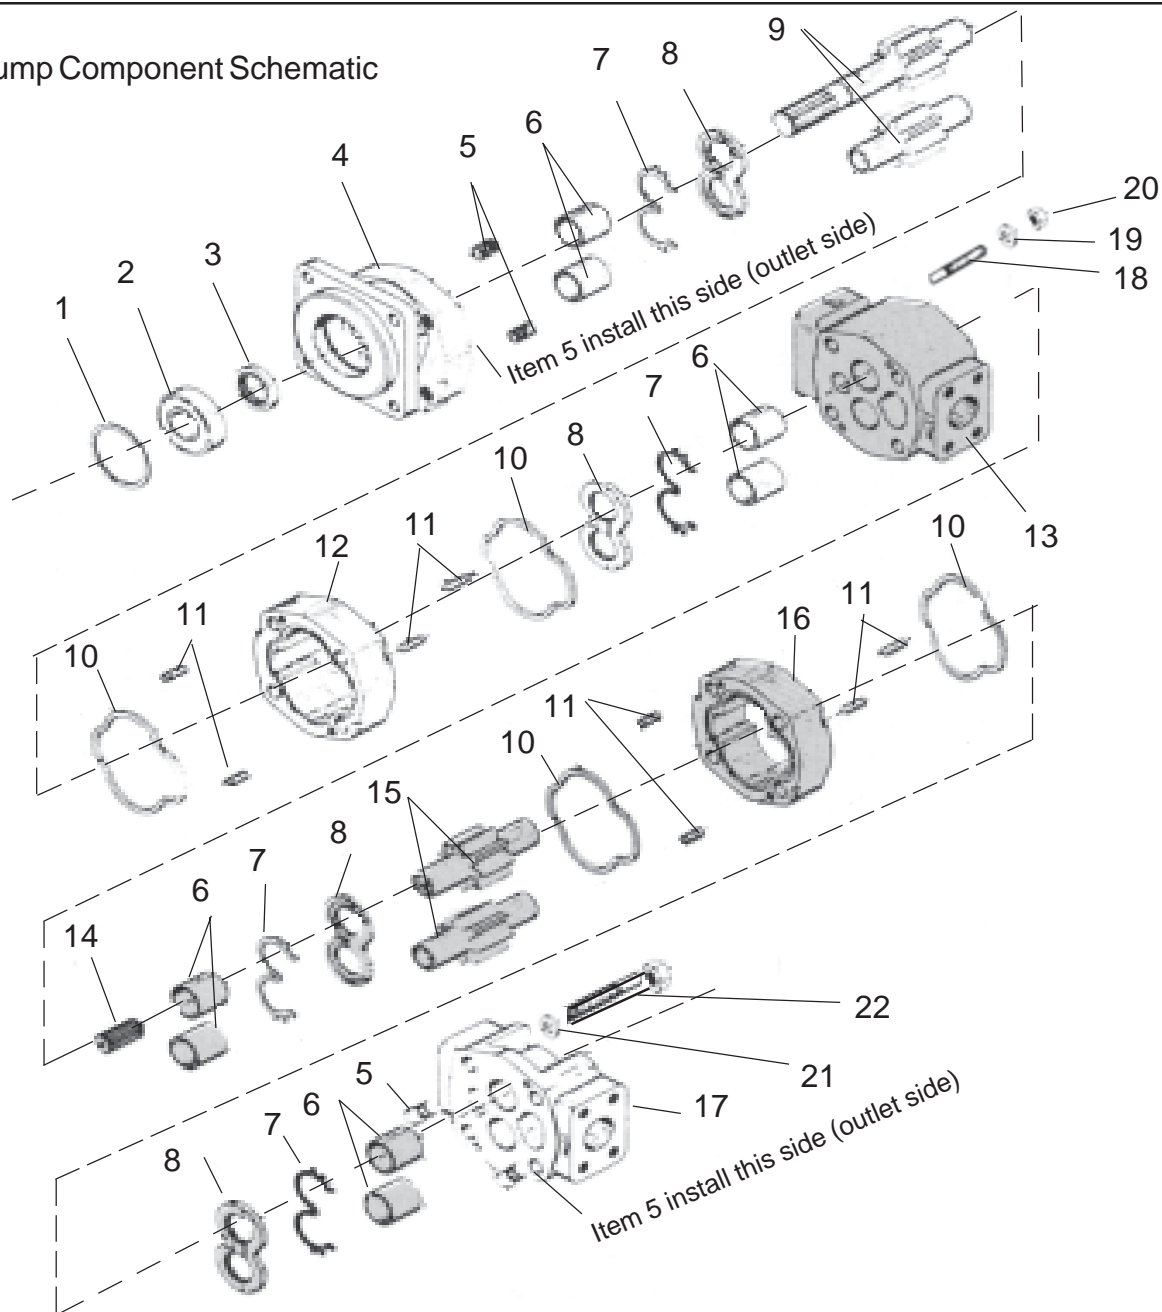
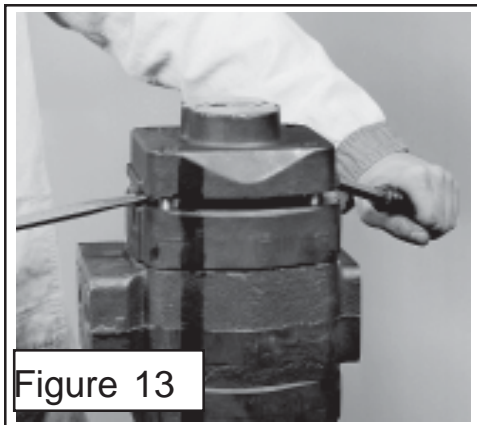
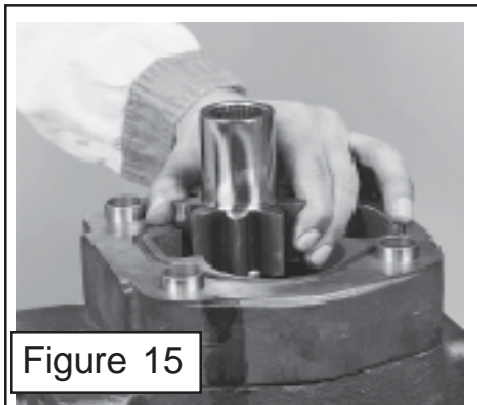

Figure 10
Figure 13
Figure 15
2. Use a socket Wrench or Boxed end wrenches (**Air impact wrenches are not recommended for dis-assembly**). Remove the four hex bolts and washers (**figure 10 item 19 & 20**), This will allow for the removal of the outward half of the pump. The inward section is still connected together with the studs and nuts which will be removed in a later step. Inspect the bolts for thread condition. If bad threads on bolts most likely the threads in that hole are bad, mark the hole so it can be check later.
3. Lift the first port end cover (figure 10 item 17), if prying is necessary, be careful not to damage the machined surfaces. Dowel pins (figure 10 item 11) will remain in either the port end cover or gear housing. This will be OK because the components must be re-assembled in the same direction and orientation as removed. If one or more of the components are to be replaced as parts then it may require that the dowel pins be removed (figure 13).
4. Remove the thrust plate (figure 10 item 8). Make a note how this was removed, there is a smooth side and there is a grooved side. The smooth side will always face the gears, the grooved side will be for the channel seal (figure 10 item 7). Inspect the thrust plate for damage or wear at this time (see wear tolerance chart for pump and motors in this section), this will help in looking for other wear or damage to other components and also enable you to start making a list of components that need replacing.
5. Carefully remove the drive gear and the driven gear (figure 10 item 15). Avoid tapping the gear teeth together or against other hardened surfaces (figure 15), Keep these gears together because they are a matched set. Examine the gears for wear and/or damage. Note the dowels (figure 15) that are in the gear housing, sometimes these will come out and be in the end cover or they may stay in the gear housing. It will be OK as long as the same components are to be reassembled, but if some components are to be replaced and some are not then these dowel pins will have to be re-removed and re-inserted.
6. Remove the outer gear housing (figure 10 item 16). Lift the outer gear housing (figure 16) up, if prying is necessary take care not to damage machined surface. Examine gear housing for wear and/or damage. (See wear tolerance chart for pump and motors in this section). When the gear housing is removed there will be another thrust plate and channel seal (figure 10 item 7 & 8) that was under the gears, sometimes this thrust plate will come out with the gears.
7. Carefully lift or pry the bearing carrier (figure 10 item 13) off carefully to avoid damage to carrier (figure 17). The dowel pins will remain in the bearing carrier housing or the gear housing, it will not require that they be removed unless the housing is to be replaced and then only to arrange the dowel pins order so the components will fit together.
8. Remove the connecting shaft (figure 10 item 14) as shown (figure 18) by pulling it up out of the drive gear shaft splines. Inspect the shaft for wear and/or damage. Inspect the end of the drive gear. Remove the thrust plate, note the thrust plate will have the channel seal in it (figure 10 item 7 & 8). Note the smooth side of thrust plate always goes toward the gear. Carefully remove the drive gear and the driven gear (figure 10 item 9). Avoid tapping the gear teeth together or against other hardened surfaces (figure 18), pull the drive gear straight up. The drive gear has the splined shaft on the other end and care must be taken not to hit the splined shaft against sides and damaging them. Keep these gears together because they are a matched set. Examine the gears for wear and / or damage
9. Lift or pry off the first section of gear housing (figure 10 item 12). Be careful not to damage machined surfaces (figure 19). Inspect the gear housing (See wear tolerance chart for pump and motors in this section). for wear and / or damage.
10. Inspect all of the bushings for scoring or discoloration (figure 10 item 6 qty 8) in the port end cap, bearing carrier (both sides) and the shaft end cover. If they need to be replaced use a bushing puller as shown (figure 4 recommended tools list). Remove the bushings with care not to damage housings (figure 20).
11. Remove shaft end cover (figure 10 item 4) from vice and turn it 180° over and re-insert it into vice. Using snap ring pliers remove the snap ring (figure 10 item 1) as shown (figure 21).
12. Remove the shaft bearing (figure 10 item 2) using a bearing puller (figure 22). Make certain to use the correct size bearing puller and that puller is inserted straight.
13. Remove shaft end cover (figure 10 item 4) from vice and turn it 180° over and re-insert it into vice. Remove the double lip seal by inserting the special seal removal tool (see figure 6 recommended tools). Make note of which way seal is removed. Inspect the shaft end cover seal seat area (figure 23).
14. Inspect all the components that have been removed (review steps 1 through 13). There are 4 gasket seals (figure 10 item 10) that are installed, one on each side of the gear housing. Make certain the gasket seal have been removed and the gasket grooves are clean. Wash and clean all the components, **DONOT** use any material that will leave lint on components, it's best to air dry the components. Use extreme caution when cleaning gear sets, **DO NOT** use any abrasive materials at all and **DO NOT** bang the gears together. Keep the gears in the same sets as they were remove as they are a matched set and must remain as a set. (See next two pages for wear identification).